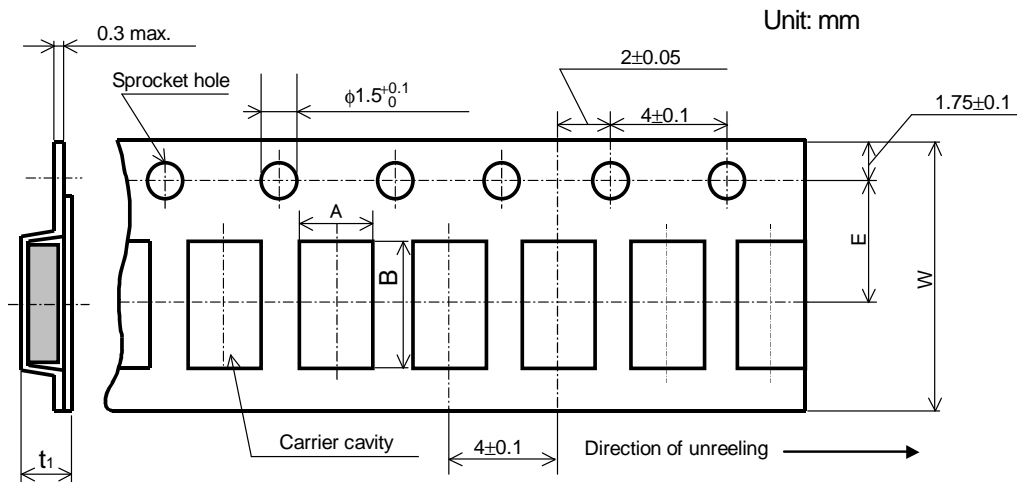

Figure-8
9.2.3 Embossed tapping dimensions shall be in accordance with Figure-8 and Table-8.